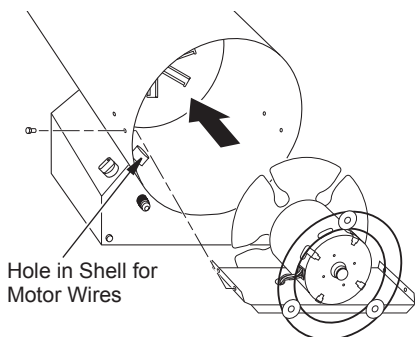

Figure 7 - Replacing Motor, Motor Mount, and Fan Guard into Heater
14. Carefully route motor wires through hole in shell (see Figure 7). Place motor, motor mount, and fan guard into rear of heater shell.